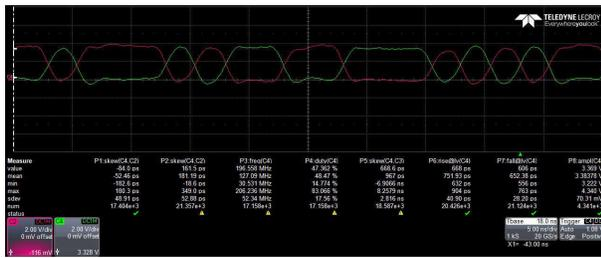
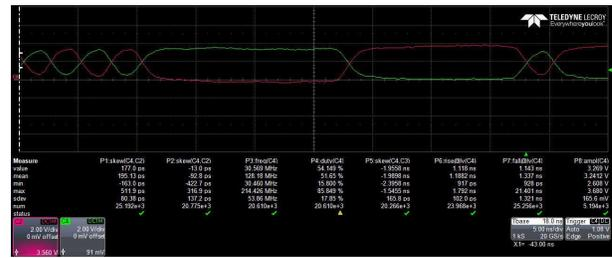

Figure 3-7. TXV Outputs (15 pF 1.8 V to 3.3 V Up Translation at 125 MHz, 25°C)
Figure 3-8. Competitor Outputs (15 pF 1.8 V to 3.3 V Up Translation at 125 MHz, 25°C)
- For 15 pF, Figure 3-7 shows TXV outputs (measuring PRBS rise-to-fall skew of 53 ps and fall-to-rise skew of 181 ps) vs competitor (measuring 195 ps and 93 ps respectively). For fall or rise times, TXV (measured 752 / 652 ps) vs competitor (measuring approximately 2x slower rise or fall times >750 ps), violating RGMII requirement as shown in Figure 3-8.